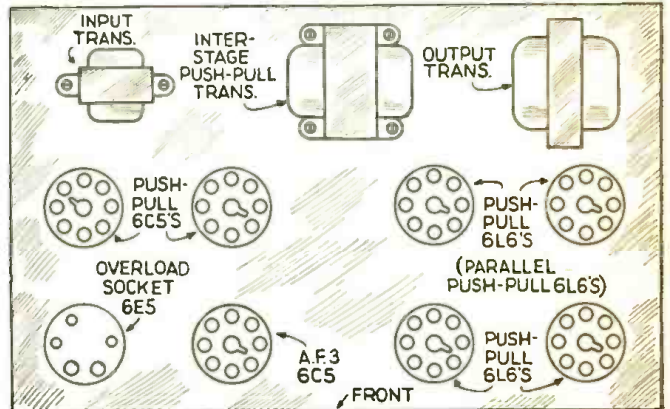
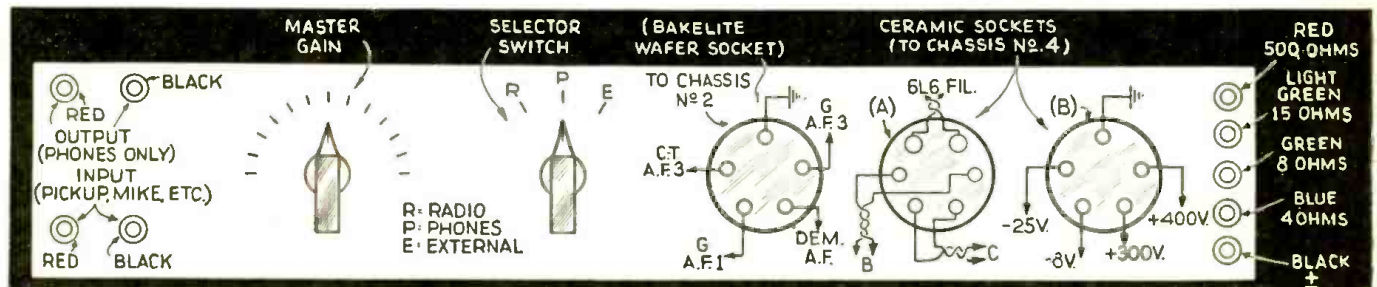

Fig. 15. Proper spacing and placement of components helps considerably to reduce hum.
Fig. 16. Use this chassis independently as a Public Address amplifier; or inter-connect it to chassis Nos. 1, 2 and 4 by means of plug-in cables (see Fig. 13).
The control panel on the front skirt of the chassis is not shown in Fig. 15. Instead, it is shown in detail in Fig. 16. In Fig. 16 the selector switch is marked R, P, E, to designate, respectively, *radio*, *phones*, and *external*. The audio output to loudspeaker is taken from tip-jacks at extreme right; those at upper-left feed headphones only. The tip-jacks at lower-left connect to magnetic or crystal pickup, carbon or velotron mike, etc. Ceramic sockets (A) and (B) connect to Chassis No. 4.